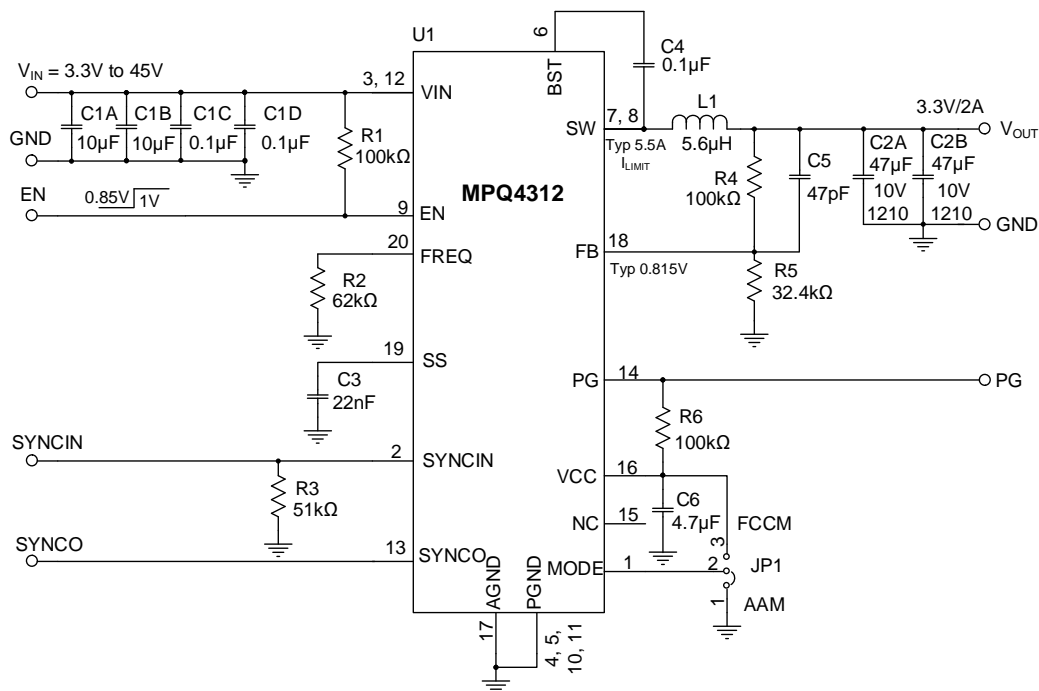

Figure 10: $V_{OUT} = 3.3V$, $f_{sw} = 470kHz$
- 9) The recommended PCB layout is based on Figure 10 on page 34.